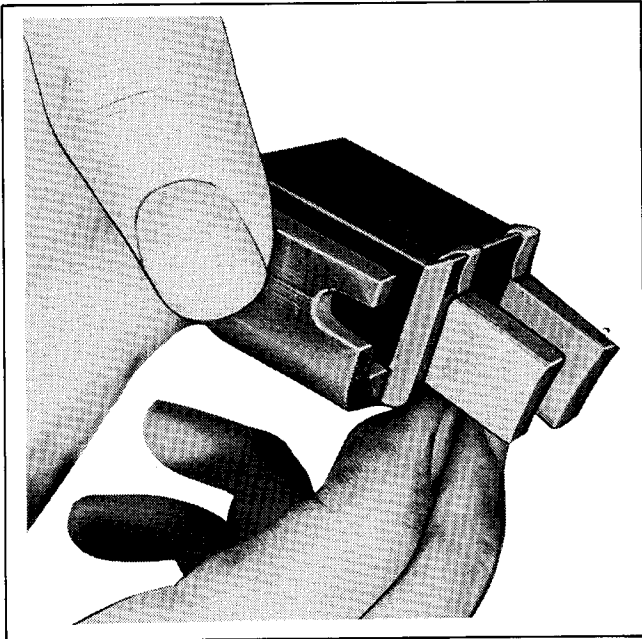

Figure 7-6. Normal Brush Wear
2. The brushes must be free to move within the holder and held in proper contact by the springs. When properly positioned, spring pressure on the brush surface will cause the brush to wear evenly. Figure 7-6 shows normal brush wear.